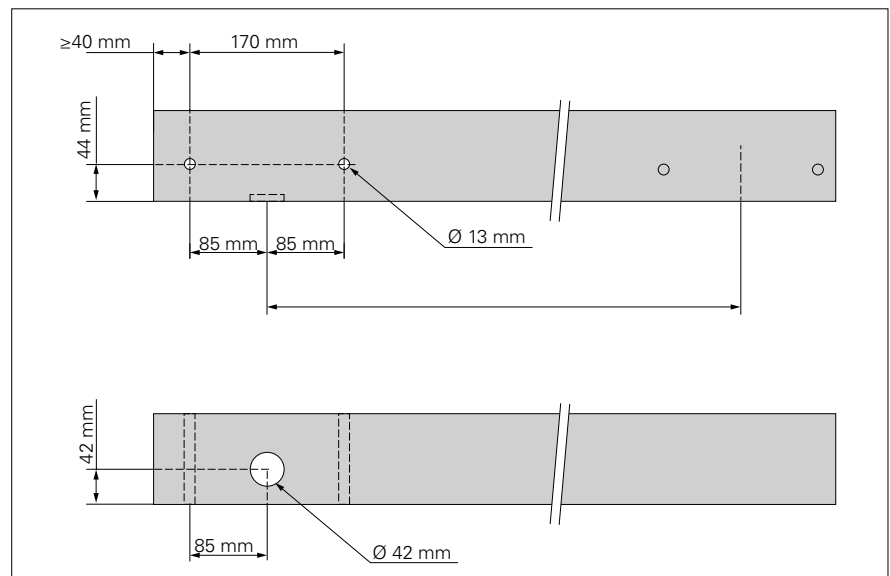

Fig. C1.04c
2. Pre-drill timbers for the screw heads (**109.1**) using a Forstner drill  $\varnothing$  42. Drilling pattern: see Fig. C1.04c.